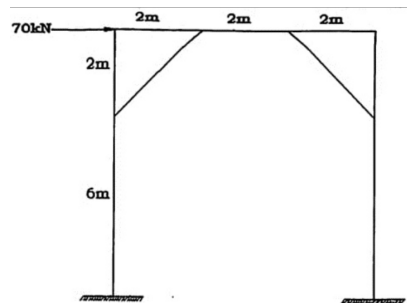

Figure 2
8. Analyse and design of portal bracing of a through type truss girder bridge subjected to load $Q = 70$ kN, shown in Figure 2. [14M]